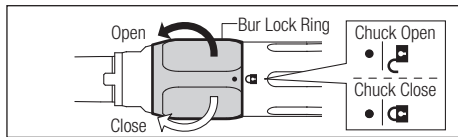

Fig. 2
- 1) Turn the Bur Lock Ring in the direction of the “” mark until it clicks. (Fig. 2)
- 2) Insert the bur fully into the chuck then turn the Bur Lock Ring in the direction of the “” mark until it clicks. (Fig. 2)
Turn the Bur Lock Ring in the direction of the “” mark until it clicks then remove the bur (Fig. 2).